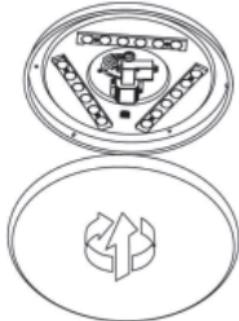

fig.5
- 7. fig. 5:** Put on the dome to the base plate (bayonet locking system).